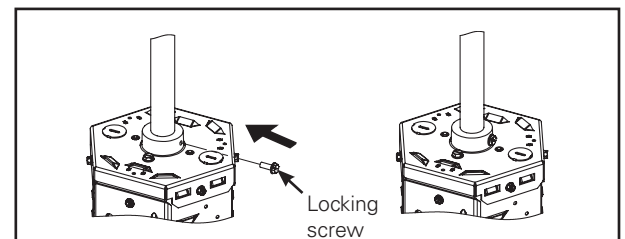

Figure 2.
2. Mount fixture to 3/4" NPT threaded hub and fasten screw to lock (Figure 2).